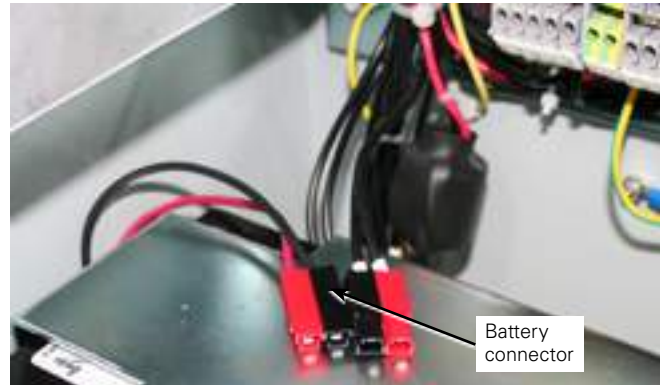

Figure 42. Battery connector
2. Disconnect the control wiring to the battery that will be replaced (Figure 42).
10. Reconnect control wiring to the new battery (Figure 42).